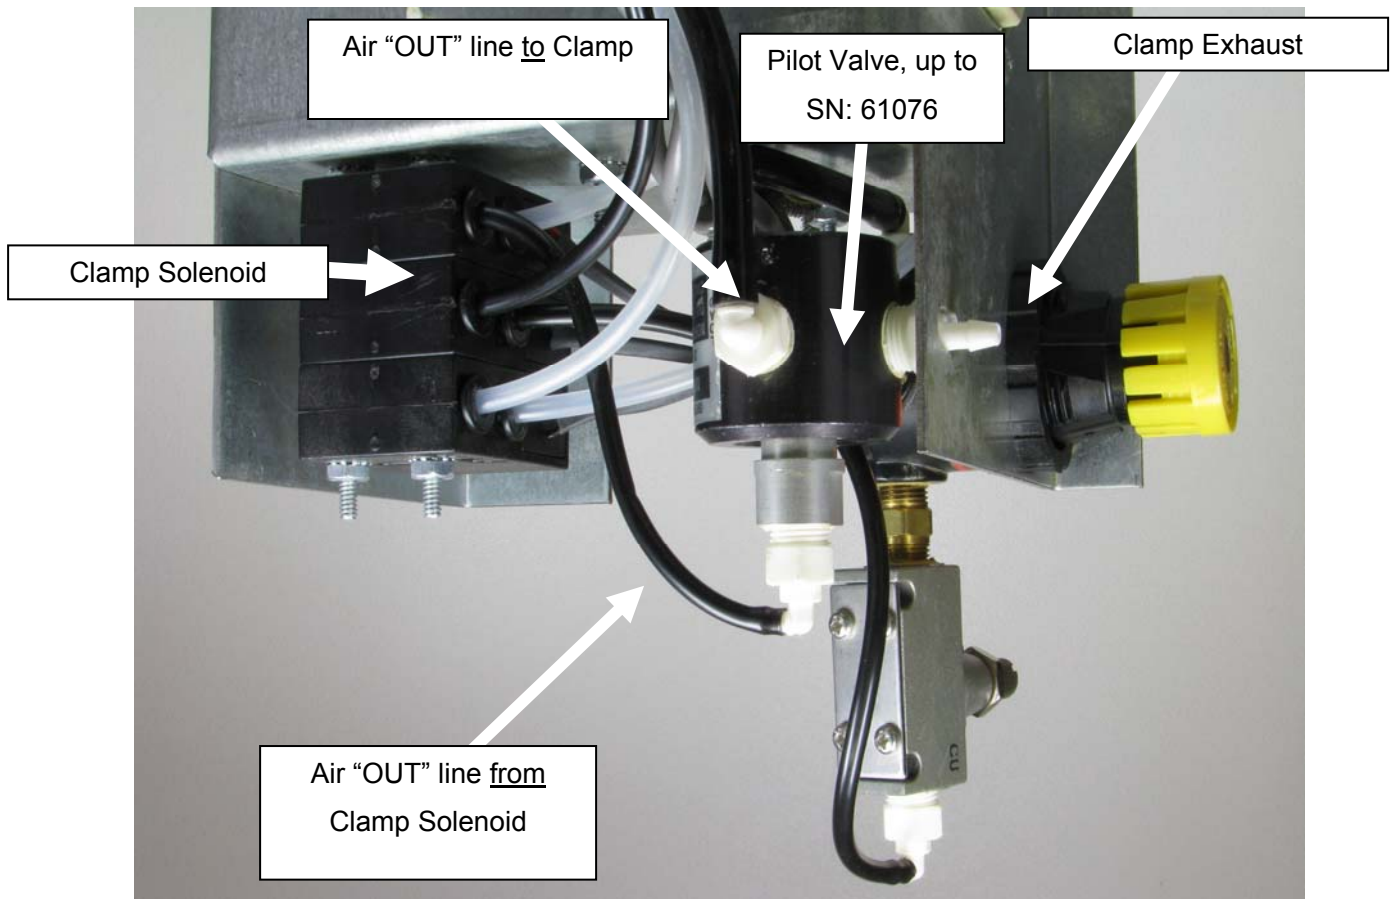

Fig 5
5. If both clamp actions are smooth and quick the Clamp Cylinder is operating properly. Continue troubleshooting the Clamp Cylinder Air Line, the Pilot Valve (on Mead solenoid machines) and the Clamp Solenoid. **See Fig 5.**